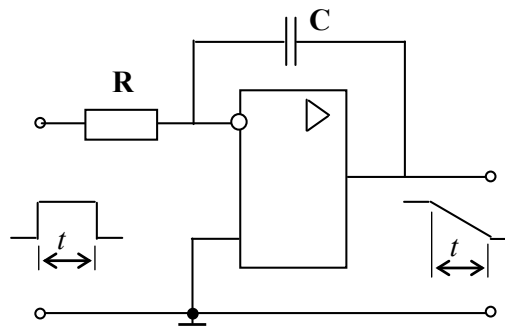

Fig. 2.37
**Integrators.** Fig. 2.37 shows an op amp *integrator*, also called *I-regulator*. An integrator is a circuit that performs a mathematical operation called integration:
The widespread application of the integrator is to produce a *ramp* of output voltage that is a linearly increasing or decreasing voltage value. In the integrator circuit of Fig. 2.37, the feedback component is a capacitor rather than a resistor. The usual input is a rectangular pulse of width  $t$ . As a result of the input current,